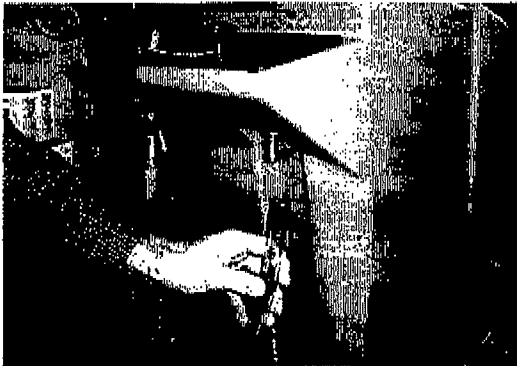

FIG. 32
1. Remove clear drain hose from hose barb, position hose over drain (Figure 32).